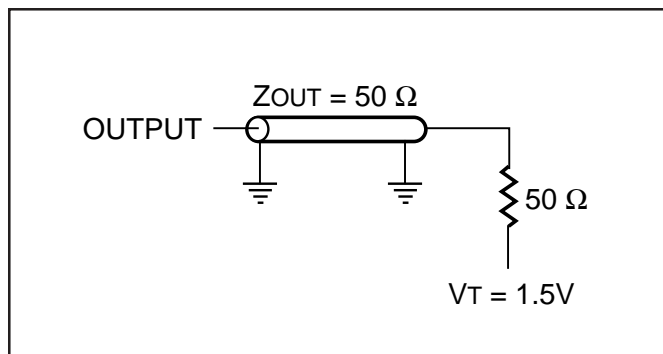

Figure 1
1. Test conditions assume signal transition times of 3 ns or less, timing reference levels of 1.5V, input pulse levels of 0 to 3.0V and C1 output loading specified in Figure 1.
2. Tested with the C2 load in Figure 1. Transition is measured ± 500 mV from steady-state voltage. Not 100% tested.